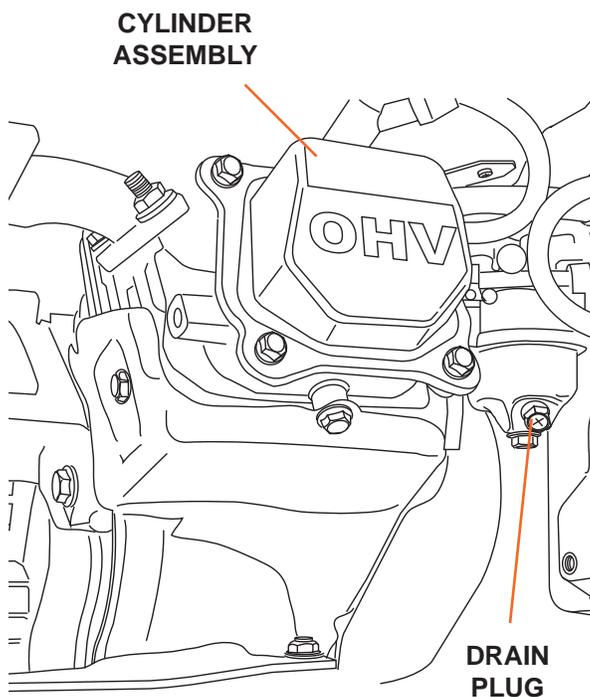

Figure 25
4. Drain the carburetor (see Figure 25). Remove the 6 hex bolts on the muffler, and slide the muffler cover off of the engine to access the carburetor.